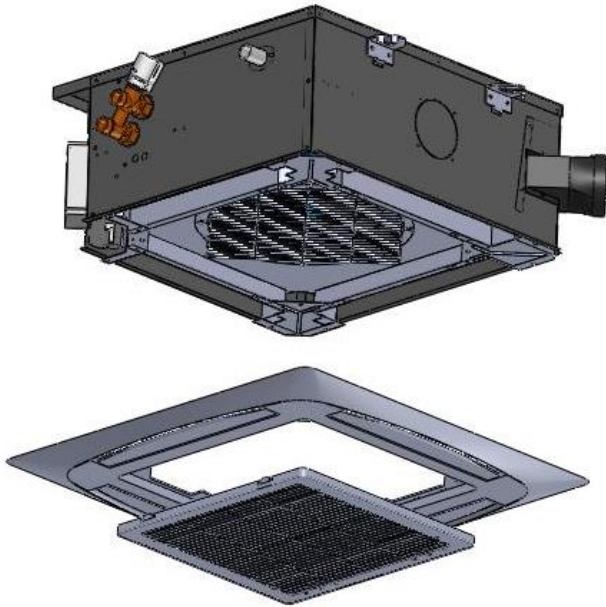
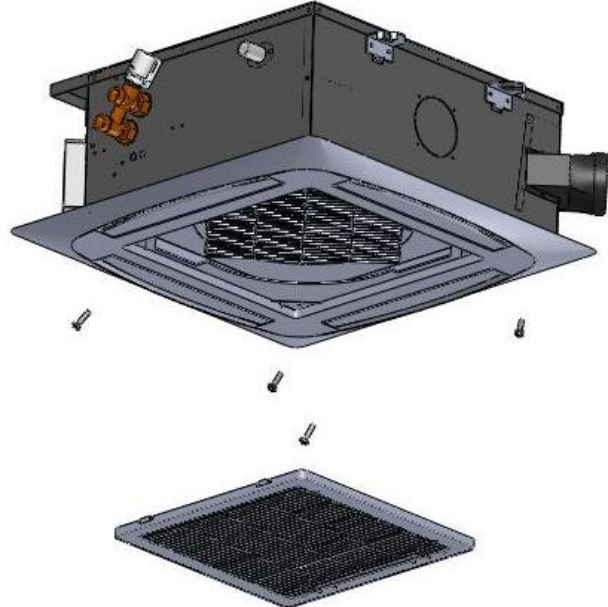

Figure 28
Figure 29
3. Tighten 4 screws to attach the front panel as shown in Figure 28 and Figure 29.